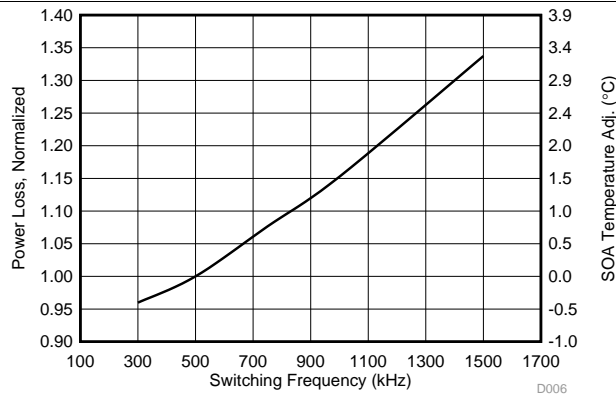

图 4. Normalized Power Loss vs Switching Frequency
- Normalized power loss for switching frequency  $\approx 1.08$  (图 4)